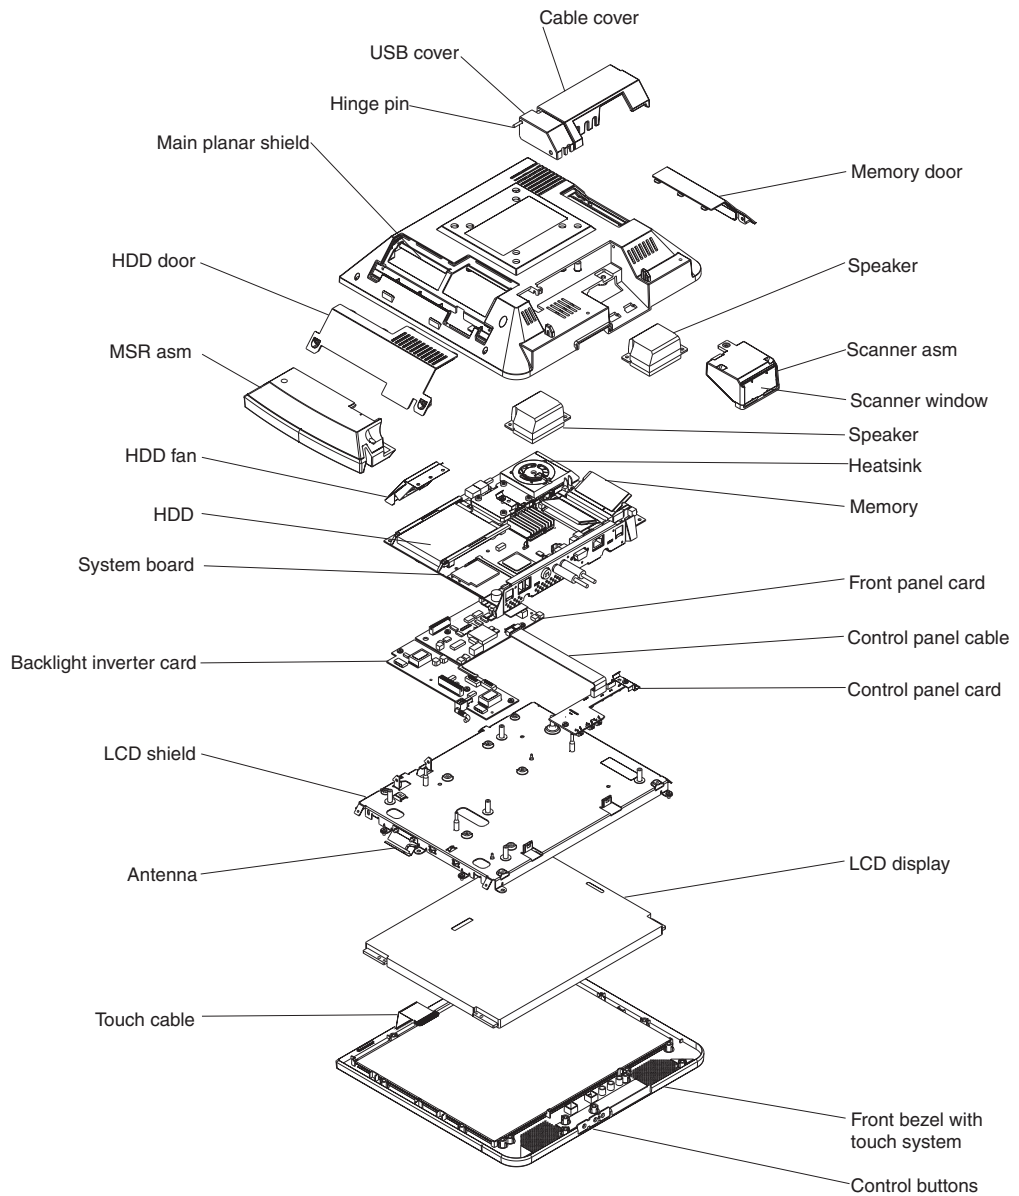

Figure 15. Exploded view of the IBM 4836 assembly
Figure 15 on page 28 summarizes the field replaceable parts of the IBM 4836 assembly. The part number associated with each FRU is located in Appendix A, "Field-replaceable units."
2. Remove the hinge pin (see Figure 15 on page 28) and lift to remove the covers.